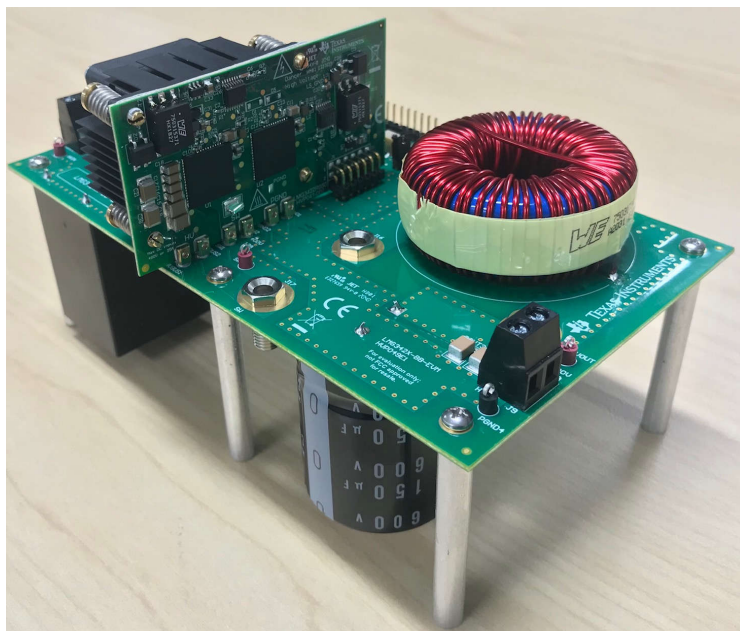
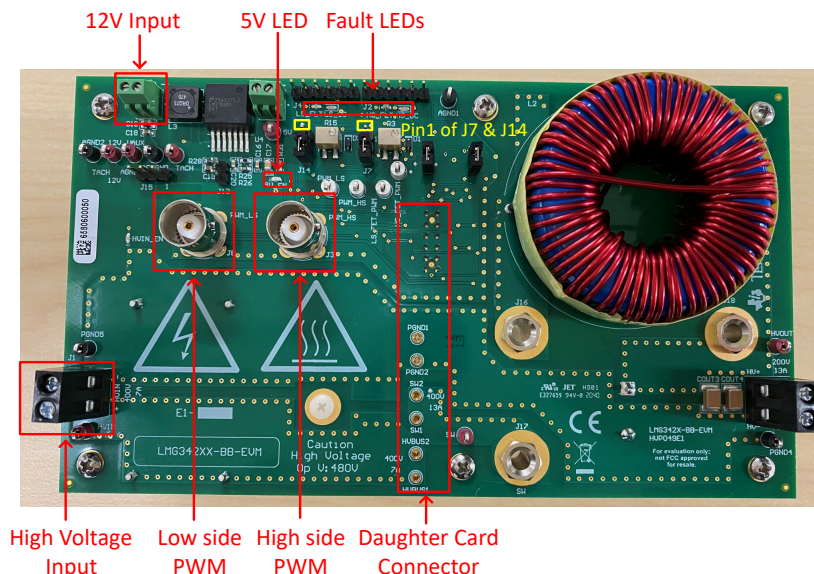

Figure 2-5. LMG342X-BB-EVM Motherboard With LMG2652EVM-101
Figure 2-6. Connector and LEDs on the LMG342X-BB-EVM
1. Connect the LMG2652EVM-101 to LMG342X-BB-EVM as shown in step 2; see Figure 2-5. The area for connection on the mother board is shown in Figure 2-6.
6. If two complementary PWM signals with dead time are provided to J3 (high-side PWM) and J8 (low-side PWM), then connect pin 1 to pin 2 for header J7 and J14 (pin 1 of J7 and J14 are indicated in Figure 2-6). This action allows the two PWM signals to directly control the high-side and low-side devices.
9. Connect the signal generator output to the LMG342X-BB-EVM PWM input as shown in Figure 2-6.
10. Connect 12V, 2A DC power supply to the LMG342X-BB-EVM 12V bias supply as shown in Figure 2-6.
11. Connect the high voltage power supply to the LMG342X-BB-EVM high voltage input for buck mode (high voltage) as shown in Figure 2-6.